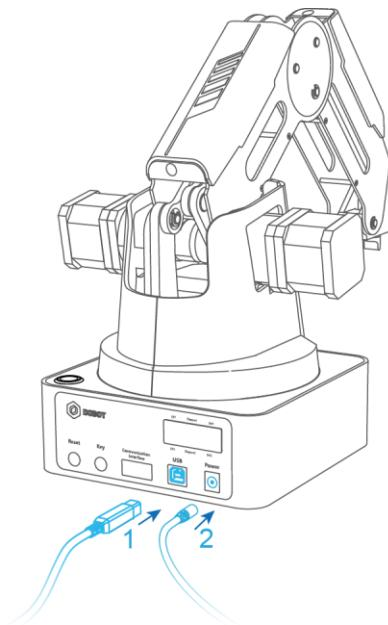

Figure 2.2 Connect the Dobot Magician to your computer
**Step 1** Connect the Dobot Magician to your computer with the supplied USB cable, as shown in Figure 2.2.
**Step 2** Connect the Dobot Magician to the electrical outlet with the supplied power adapter, as shown in Figure 2.2.